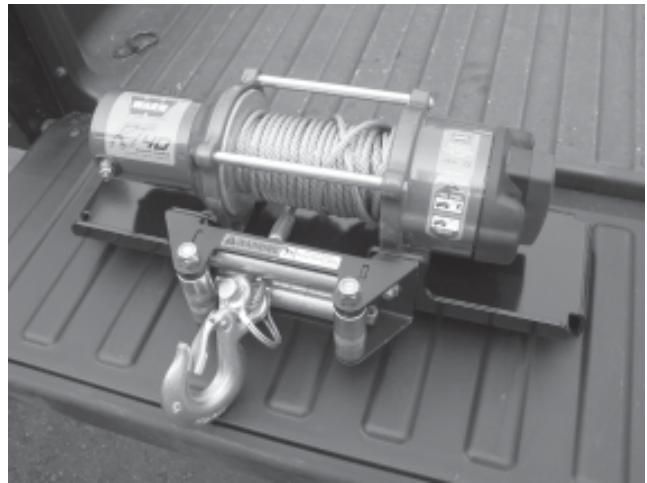

Figure 7
6. Install roller fairlead on front surface of mounting plate, as shown in Figure 7, using hardware supplied with winch kit. Next mount winch to mounting plate using hardware supplied with winch kit and torque hardware to 17lb. ft. (12.5 N-m).